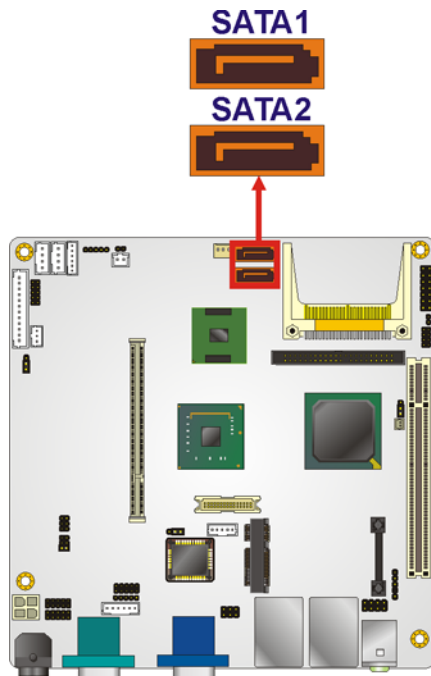

Figure 4-16: SATA Drive Connector Locations
- CN Location:** See **Figure 4-16**